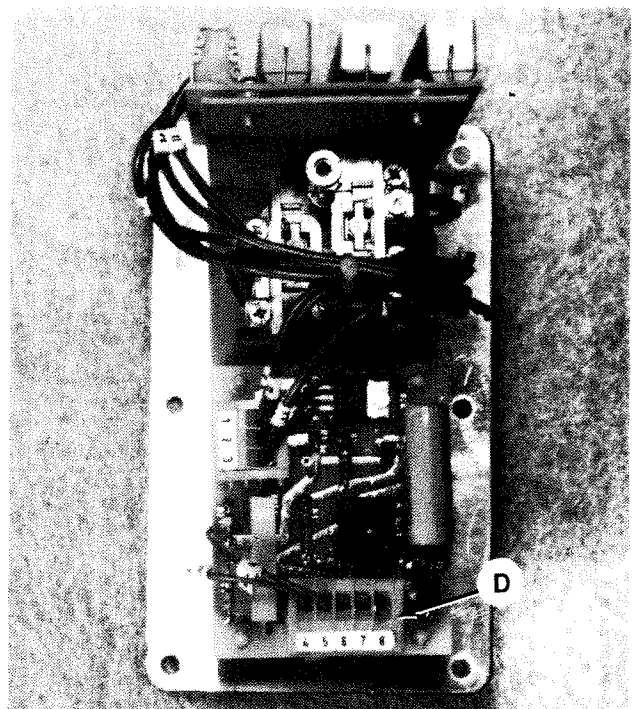

Figure 3.42 - Power Feed Module
5. Record the connections; then disconnect the wires from connections 6, 7, and 8 on terminal block "D", Figure 3.42 .
22. Reconnect the wires to terminal block "D", Figure 3.42 .